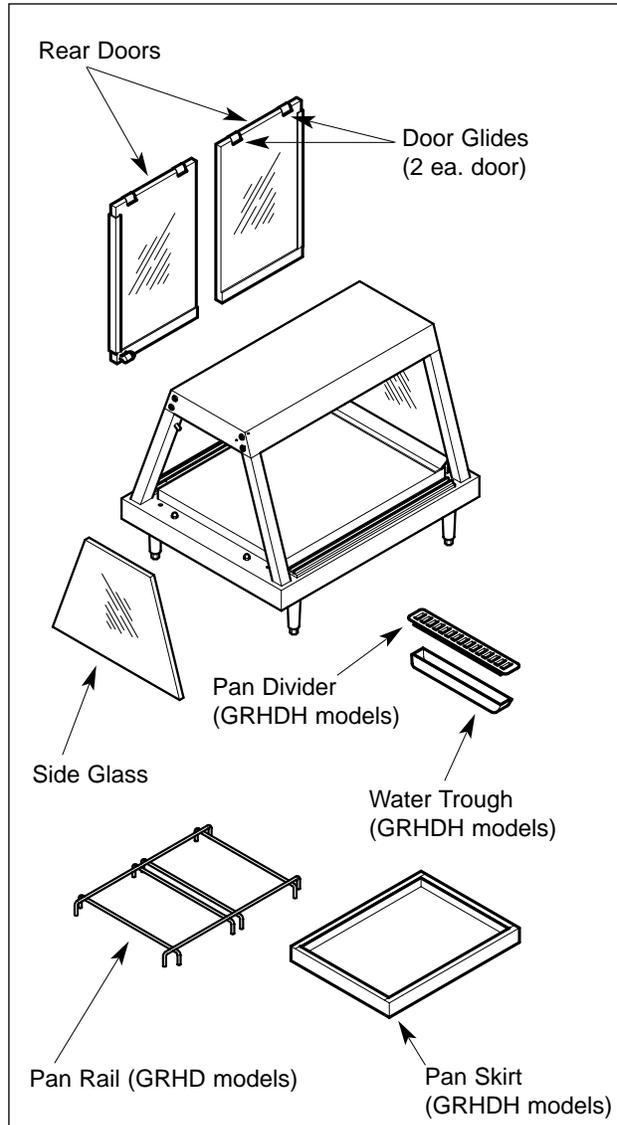

Figure 10. Exploded View - GRHD Models
2. Remove all components from inside the unit. See Figure 10.
3. Remove all doors by grasping the door edges then lifting up and out of the bottom channel. See Figure 10. Discard the protective cardboard from top of each door.
**NOTE:** Do not remove the plastic glides from top of door glass. See Figure 10.